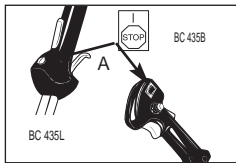

Fig. 10A
1. Press ON/OFF switch to the "RUN (I)" position (Fig. 10A).